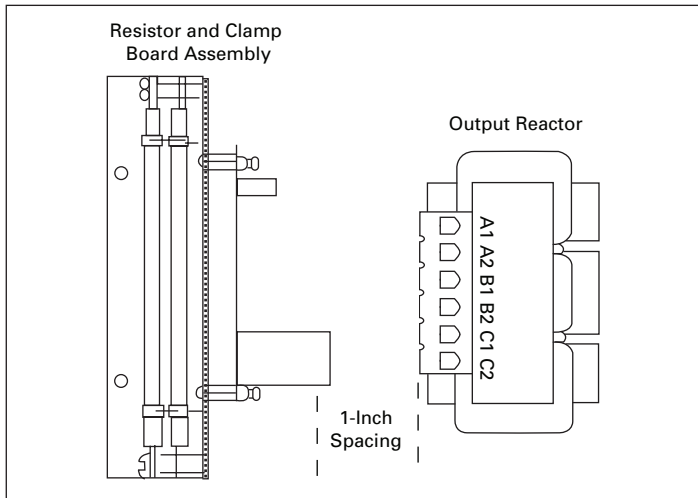

Figure 3. Mounting Orientation and Component Spacing
- Orient filter kit components as shown in **Figure 3** below